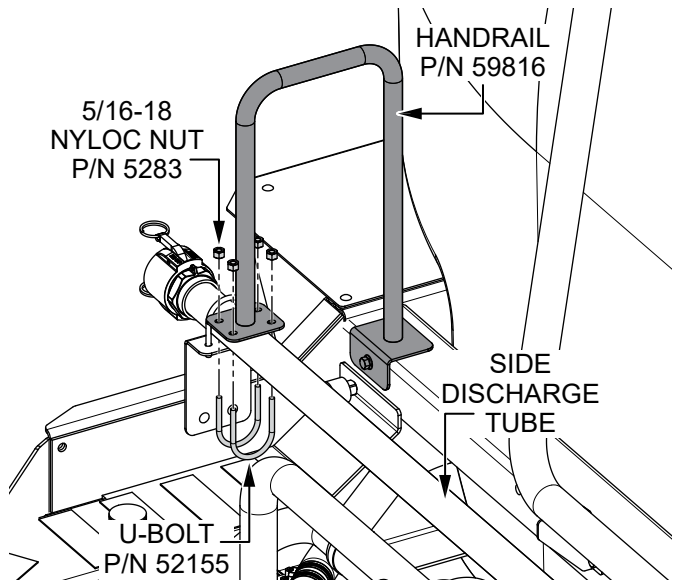

Figure 3. Secure Handrail To Side Discharge Tube
2. Secure the **handrail (P/N 59816)** to the **side discharge tube** using the **two U-bolts (P/N 52155)** and **four 5/16-18 nyloc nuts (P/N 5283)**. See Figure 3.